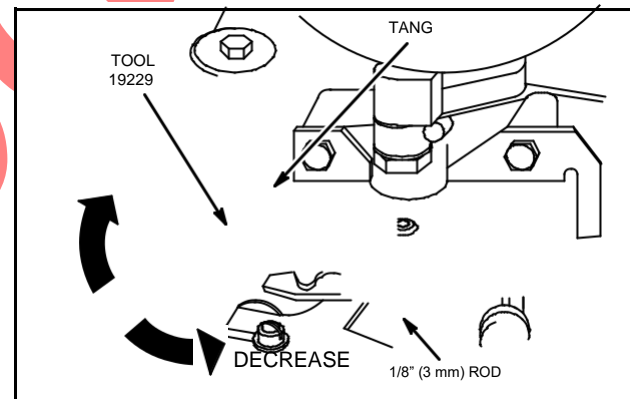

Fig. 54 – Adjust Governed Idle
7. Move equipment speed control lever until 1/8" (3 mm) rod can be inserted through the 2 holes in the governor control plate, Fig. 54.
8. With tang bending tool bend governed idle tang to obtain 1300 RPM, Fig. 54.